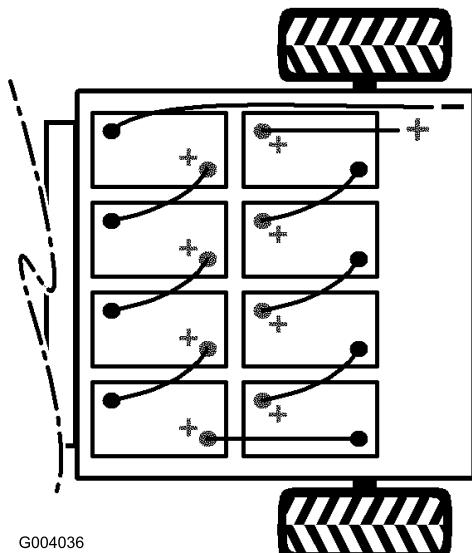

Figure 38
2. Disconnect the main negative-battery cable (black) that connects the bank of batteries to the ground point of the machine (Figure 38).
- Disconnect the main positive-battery cable (red) that connects the bank of batteries to the main fuse of the machine (Figure 38).
Note: Pay attention to the battery polarity when installing the new batteries (Figure 38).
- Connect the batteries together as shown in Figure 38 with the battery-interconnect cables that you removed in step 1.
- Connect the main positive-battery cable (red) that between the bank of batteries and the machine (Figure 38).
- Connect the main negative-battery cable (black) between the bank of batteries and the machine (Figure 38).